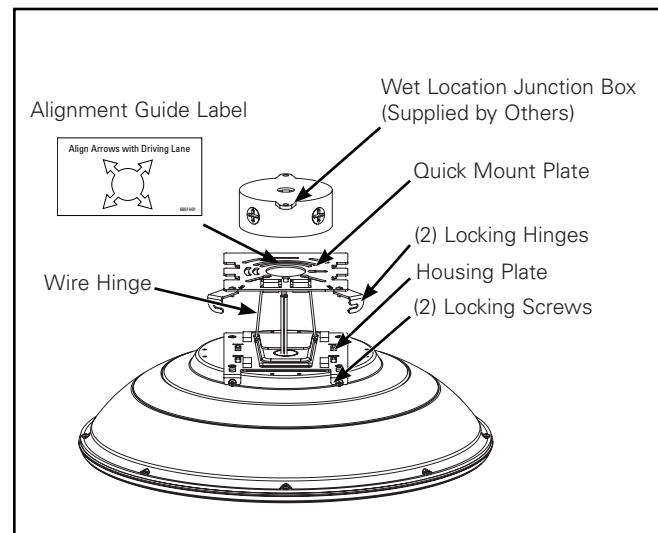

Figure 3.
Align quick mount plate to junction box by aligning arrows with parking garage driving lanes (Figure 3). Direction of arrows should be in line with direction of traffic.
3. Unhook quick mount plate from the wire hinge (Figure 3).
4. Install the quick mount plate onto a wet location junction box (Supplied By Others) using the hardware supplied (#8-32x3/4" or #6-32x3/4" screws). See alignment guide above and the alignment arrows on the quick mount plate label (Figure 3).